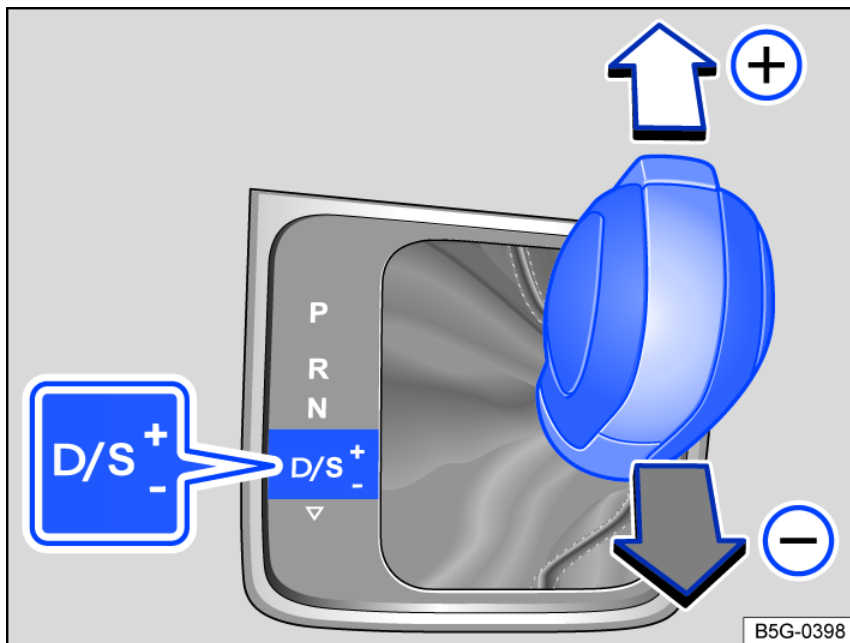

Fig. 113 Selector lever in Tiptronic position.
2. Tap the selector lever forward  or to the rear  to upshift or downshift fig. 113.